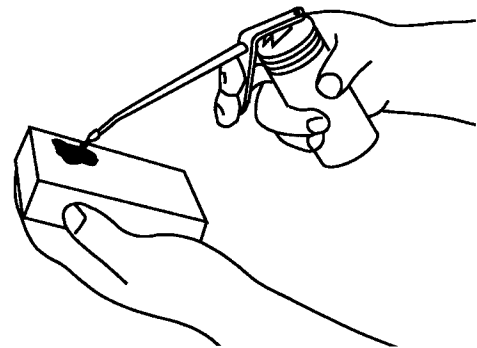

**Figure 18**
1. To remove air filter, snap cover latch open, swing to side and unhook (Fig. 18).